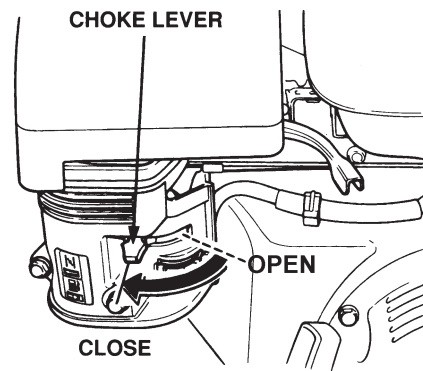

Figure 14. Choke Lever
4. Place the **Choke Lever** (Figure 14) in the "**CLOSED**" position.
7. If the engine has started, slowly return the choke lever (Figure 14) to the **"OPEN"** position. If the engine has not started repeat steps 1 through 6.
1. Start the engine. Rotate the throttle lever (Figure 14) toward full throttle.